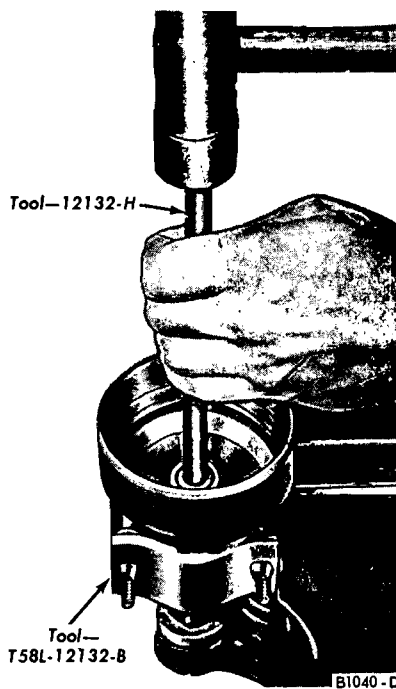

FIG. 10—Lower Bushing Removal
15. Remove the distributor shaft lower bushing (Fig. 10).